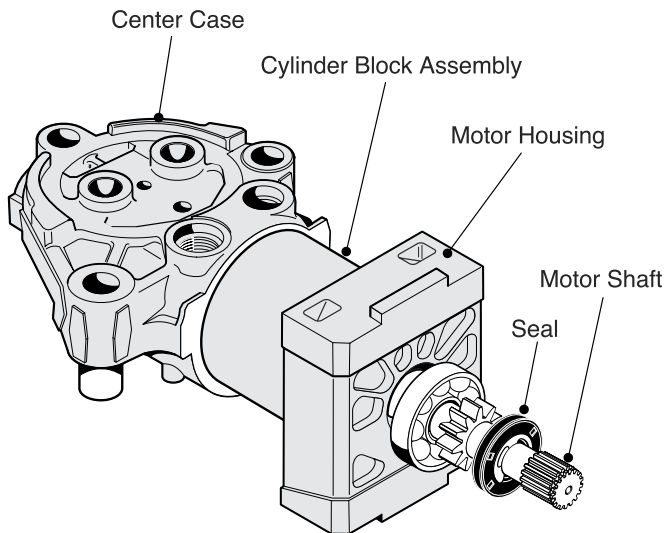

Fig. 33, Hydrostatic Motor Assembly
2. Align the Motor Shaft with the bushing in the Center Case and press together. (Fig. 33)